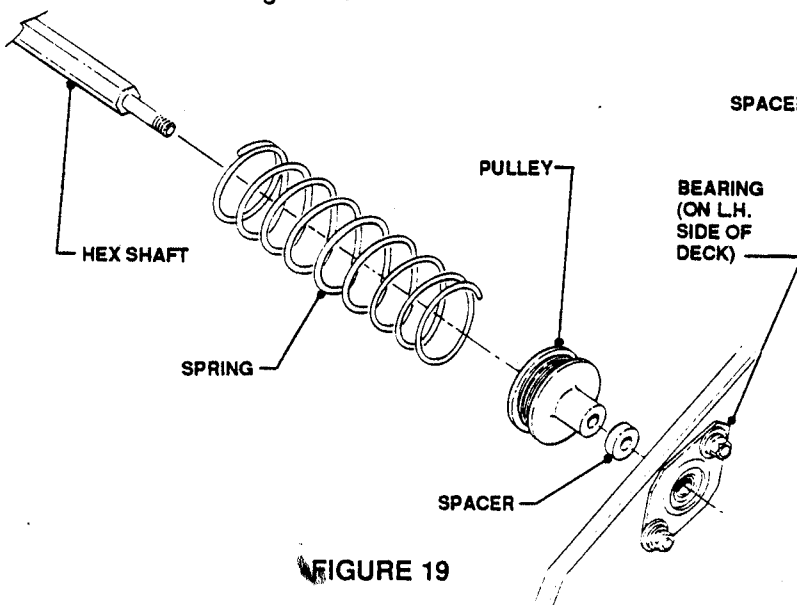

FIGURE 19
10. After rotating "UP", push Driven Disc assembly towards center of mower until Spacer, Pulley and Spring can be removed from Hex Shaft. See Figure 19.